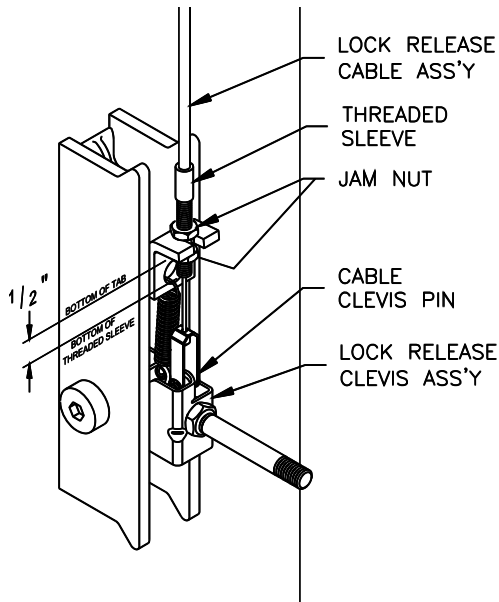

Fig 10 – Power Column Lock Assembly
- 26) Attach Mechanical Lock Release Cable Assembly to Power Column Lock Release Clevis using the 3/16" diameter x 1/2" long pin and (2) "C" clip retainers, **Fig 10**.
- 27) Insert threaded sleeve portion of cable assembly in slot located on tab above locking pawl, **Fig 10**. One jam nut should be located on each side of tab. Position threaded sleeve with 1/2" of thread below tab as indicated in **Fig 10** and tighten jam nuts.